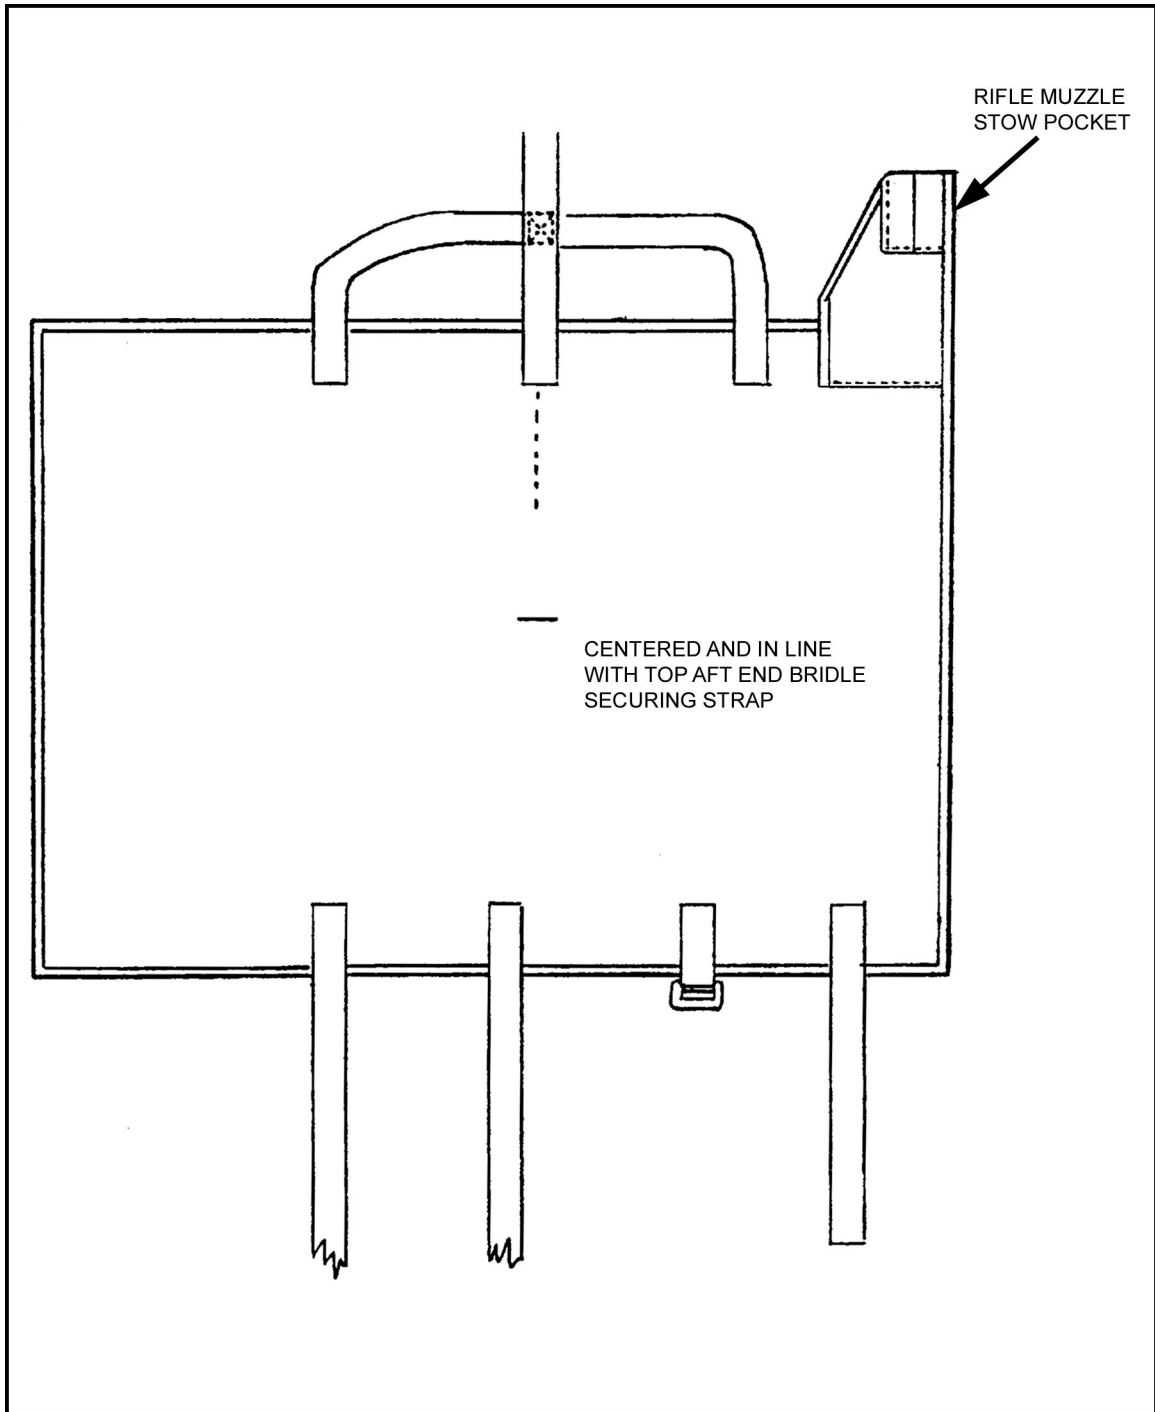

Figure 12-61. Marking the center of the DMJP.
- a. Lay the DMJP for modification flat, felt side up. Using a suitable marker, make a mark at the center of the pack and in line with the aft end bridle securing strap at the top of the DMJP (Figure 12-61).